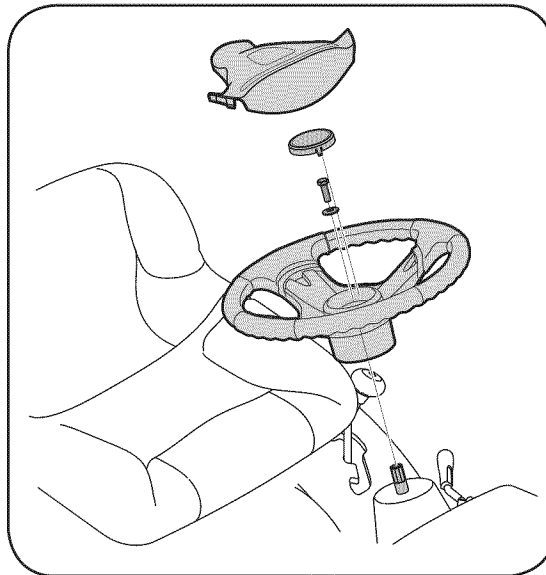

Figure 3
NOTE: There are two different styles of steering wheel cap. See Figure 3. **Styles vary by model.**
2. Place the washer (with the cupped side down) over the steering shaft and secure with the hex bolt. See Figure 3.